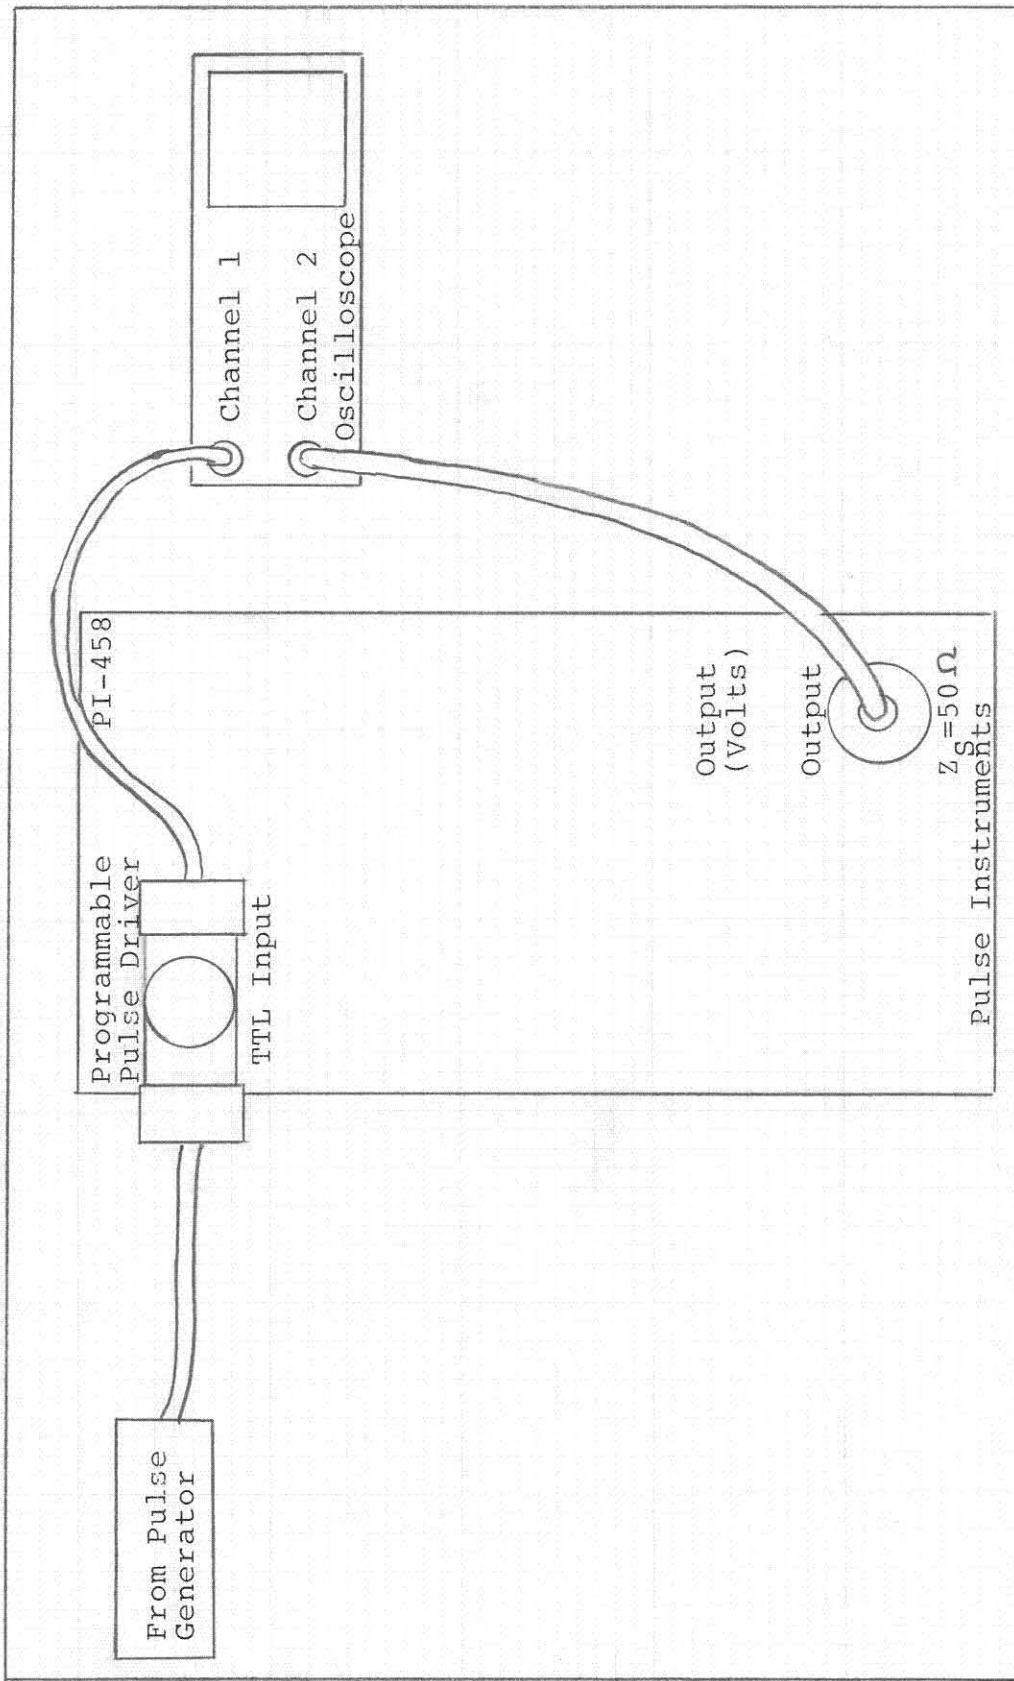

Figure 3-1. Interconnections for Insertion Pulse Delay Measurement (Input to Output)
e. Disconnect Pulse Generator signal output cable from the PI-458A INPUT connector, and connect a BNC Tee connector at the INPUT connector (see Figure 3-1).